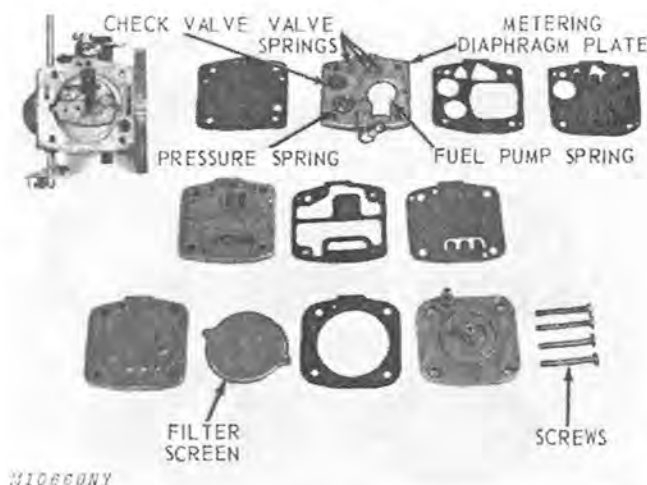

Fig. 7-Disassembling Plates
Remove four screws, Fig. 7, securing plates and diaphragms to carburetor body. Remove plates, diaphragms, gaskets and filter screen.
Remove three valve springs, check valve, pressure spring, screen and fuel pump spring from metering diaphragm plate, Fig. 7. See Fig. 6 for location of screen (32).